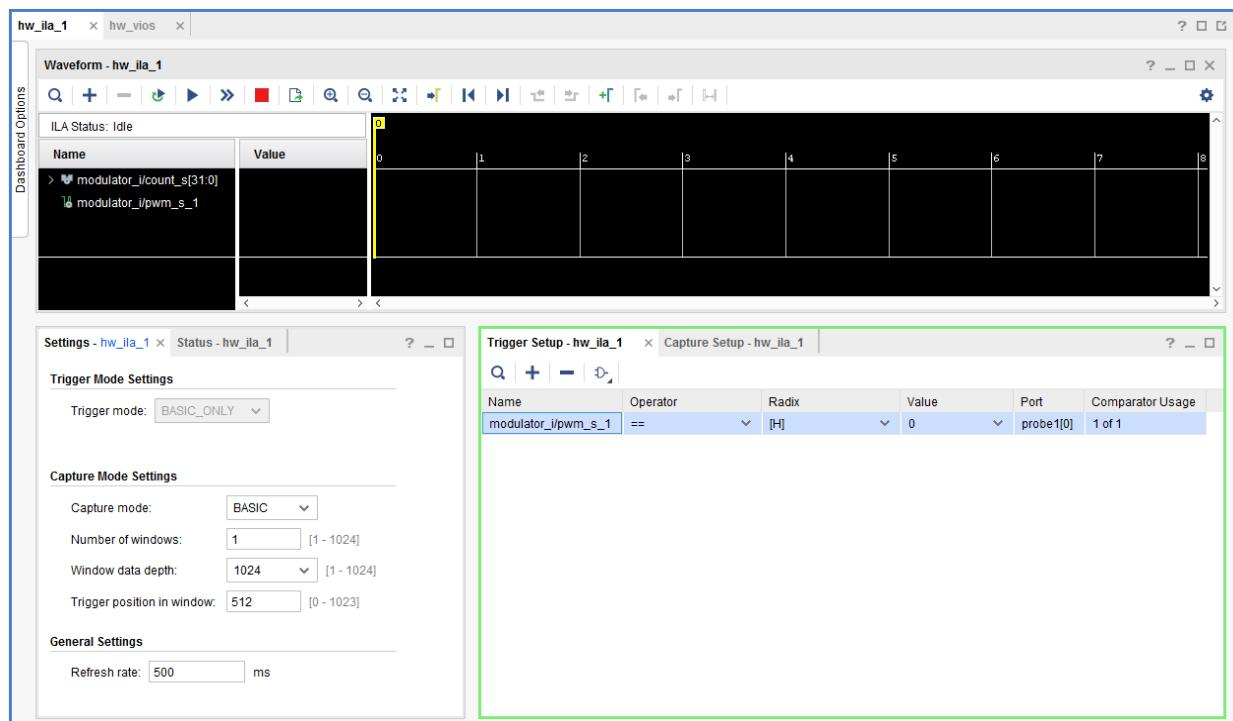

Figure 11.40: Add Probes to the Capture Setup window
7. In the **ILA Settings** window, change the **Capture mode** to be **BASIC** in the **Capture Mode Settings** section, see Figure 11.40.
9. In the **Add Probes** window select only **pwm_s_1** probe and click **OK**, see Figure 11.40.